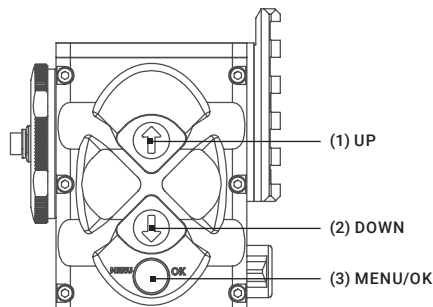

FIGURE 2-6. BUTTON CONTROL PANEL
The Asp controls are shown in Figures 2-6 and 2-7, and are defined in Tables-1 and 2-2. The ITEM NO. columns indicate the numbers used to identify items in the figures.
The Asp button control panel is shown in Figure 2-6.
Table 2-2 contains the button functions and their descriptions. The ITEM NO. column indicates the number used to identify buttons in Figure 2-6.
To display the MAIN MENU, hold down button (3) on the control panel (Figure 2-6).